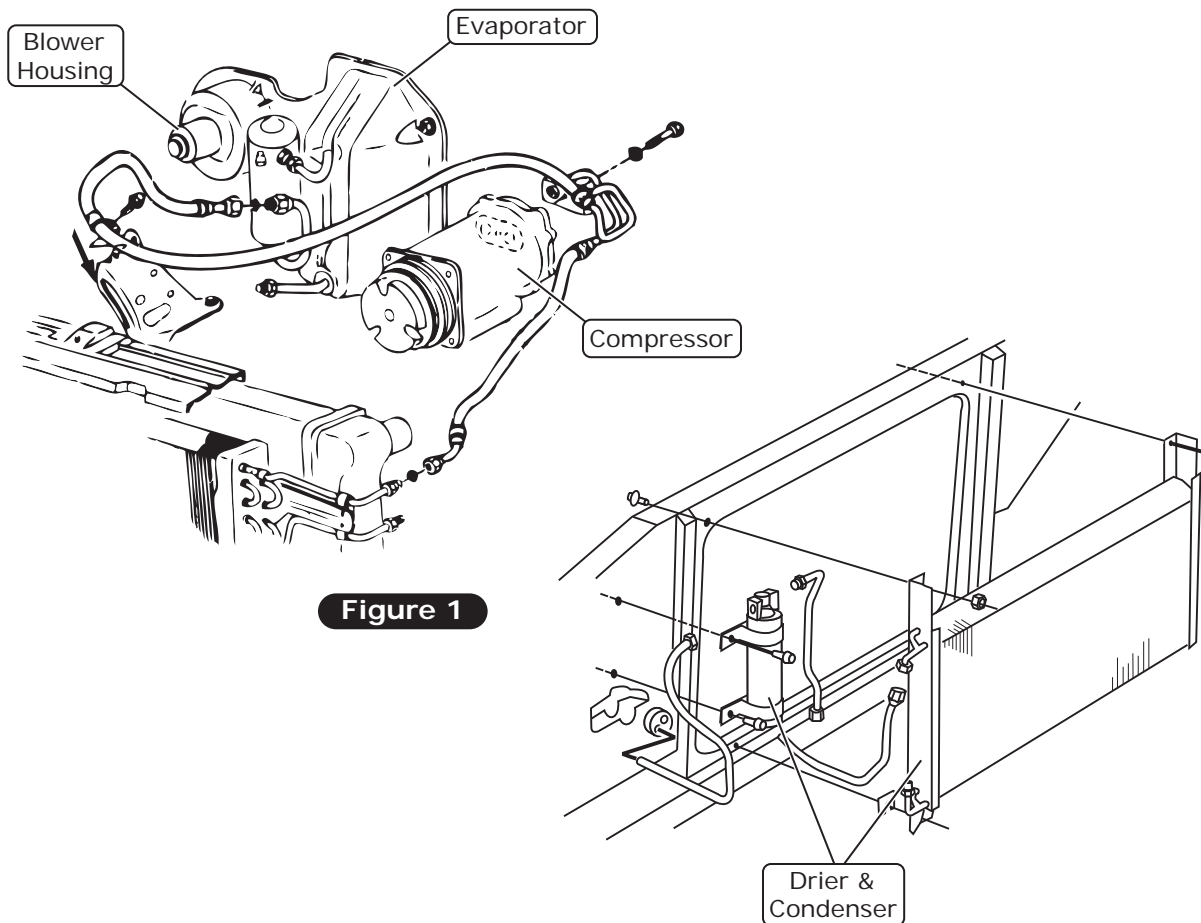

Figure 1
4. Remove the OEM condenser and drier (discard) (See Figure 1, below).
8. Remove the OEM heater hoses, A/C hoses and hardlines (discard) (See Figure 1, below).